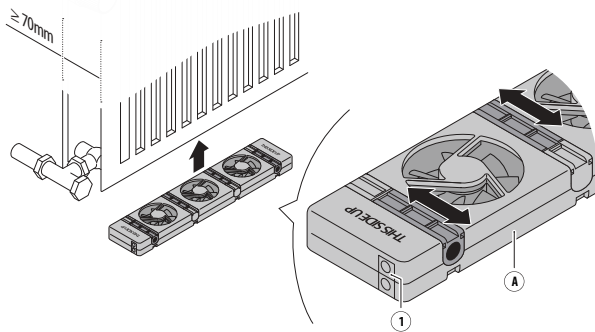

Fig. 1 - Position the SpeedComfort (A).
1. Make sure that the **SpeedComfort** (A) faces upwards and that the **female connectors** (1) point towards the wall socket (see fig. 1).